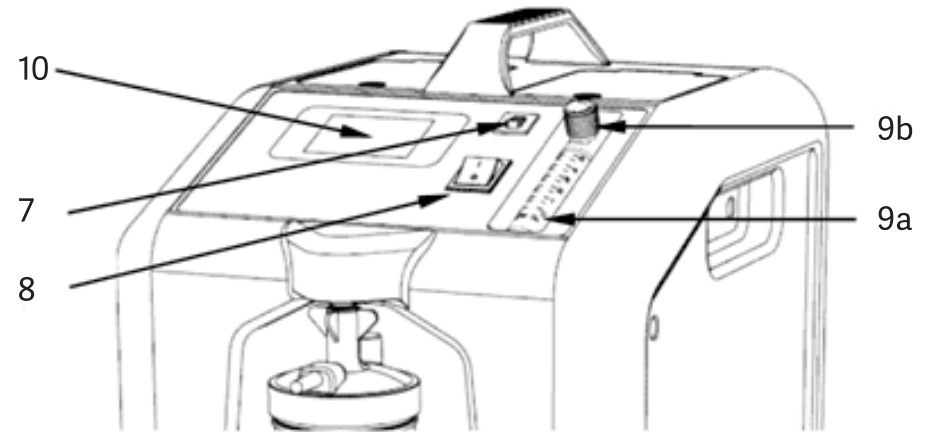

Figure 3
9. Oxygen flow meter (Figure 3)